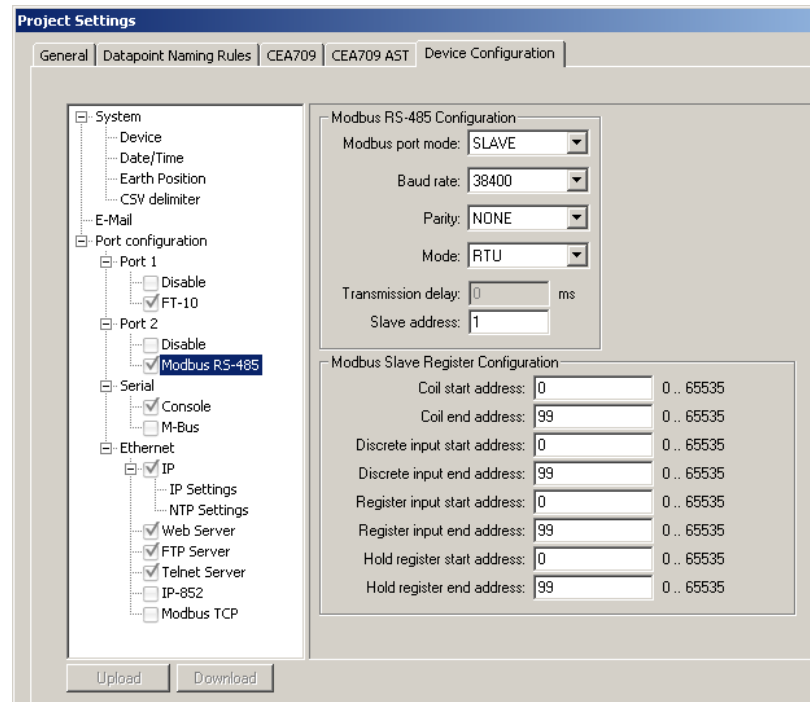

Figure 186: Project settings for Modbus.
2. In the **Device Config** tab enable the Modbus check boxes on the desired ports as shown in Figure 186. Setting the check box enables Modbus on that port. Edit the Modbus communication settings.